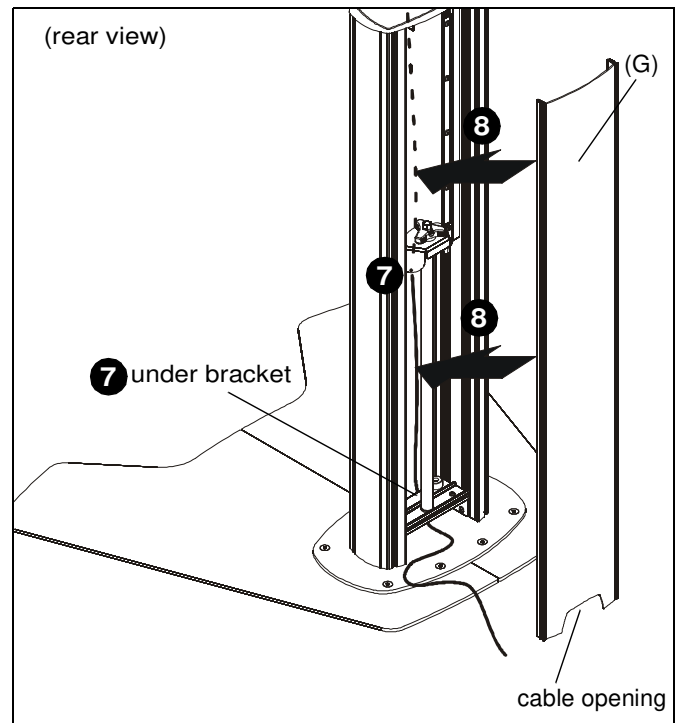

Figure 13
7. Route cables down column channel, tucking them behind height-adjustment carriage and underneath bracket holding height-adjustment shaft. (See Figure 13)
8. Snap back cover (G) onto back of column assembly making sure cables fit through opening at bottom of cover. (See Figure 13)
WARNING: Do not attempt to raise or lower the adjustment carriage beyond its upper or lower limit. High and low points are shown in Figures 13 and 14.